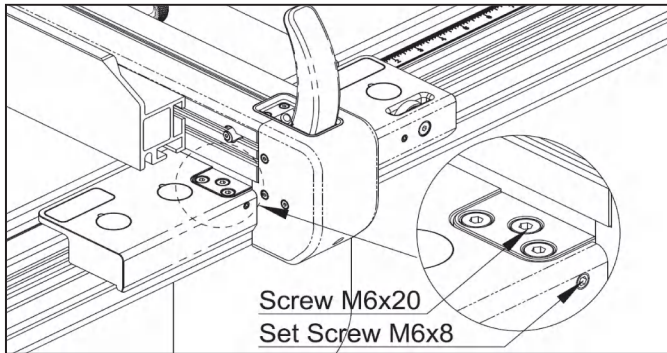

Fig. 7-1
- Refer to Fig. 7-1, lift the locking handle, use a hex wrench to remove the six M6x20 screws, and loosen the two M6x8 set screws to detach the fence body.